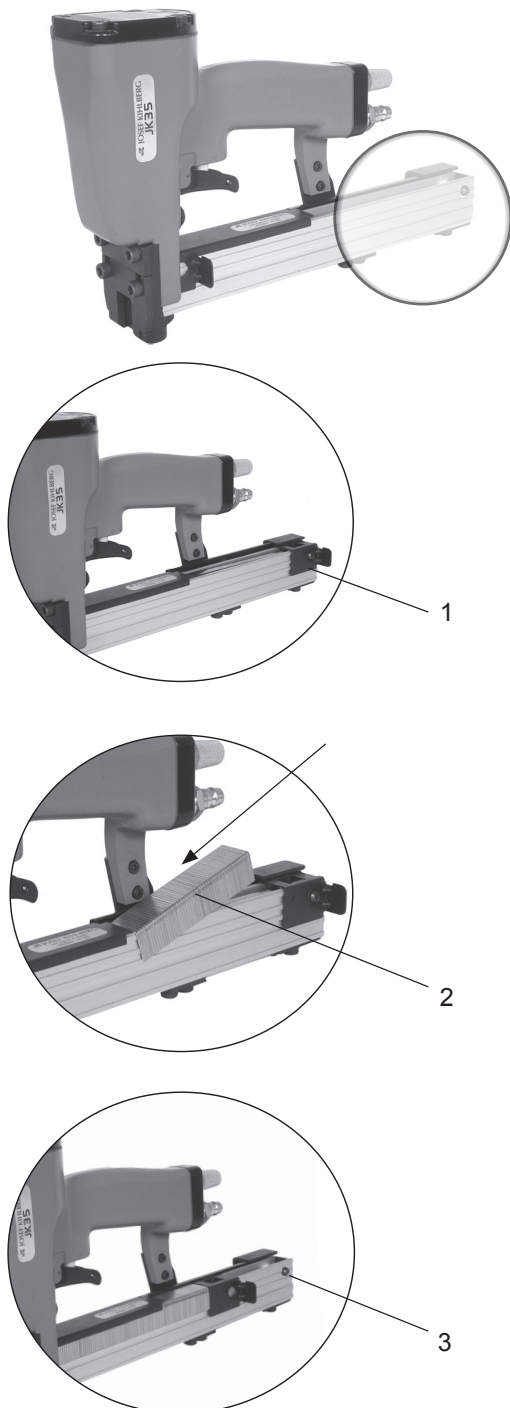

Fig. 5
1. Pull the pusher all the way out (Fig. 5/1).